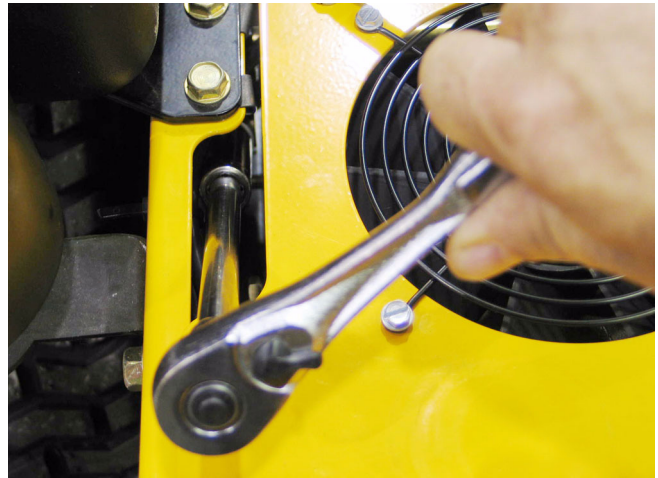

Figure 21.7
21.7. Each brake adjustment nut can be reached through an opening between the hydro service plate and the control housing. See Figure 21.7.